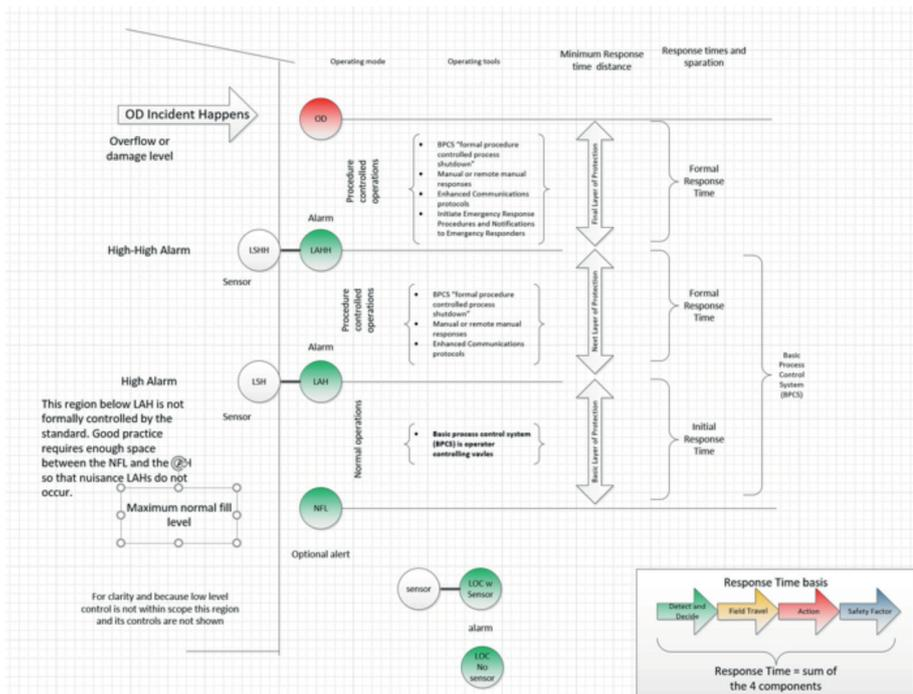

Figure 3: LOCs and response times
A key step in OPP is to establish LOCs (levels of concern) as shown in Figure 3. OD is the liquid level we never want to reach. It is defined as overflow, damage, or any other problem associated with a too high liquid level as specified by the operator/owner. In API 2350 there are 2 important LOCs:
Obviously, alarms must be initiated using sensors which are shown in Figure 3. The other levels such as OD and NFL must still be determined but they are just elevations; no physical sensor or equipment is needed at these levels.
Response time is the time between LOCs. It is, of course, based on the flow rate into the tank which is a maximum flow value. The inset in Figure 3 shows that response time (RT) is the reasonable and necessary time for an operator to detect the alarm, physically go to the field and turn the appropriate valves or shut off pumps, with the addition of a safety factor.